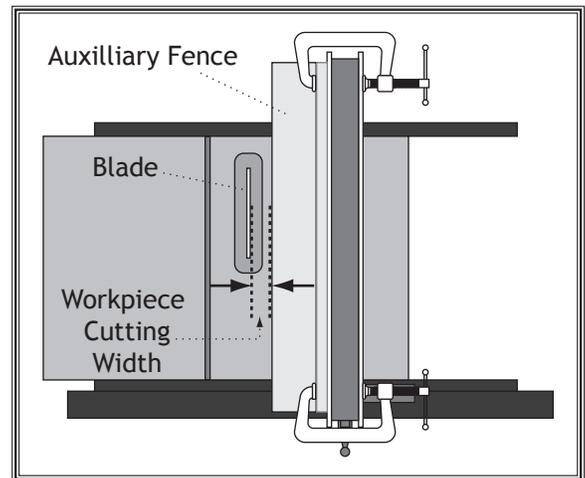

Figure 97. Adjusting ripping distance between blade and auxiliary fence.
1. Place auxiliary fence on table and clamp it to fence at both ends, then adjust distance between auxiliary fence and blade—this determines how wide workpiece will be ripped (see **Figure 97**).